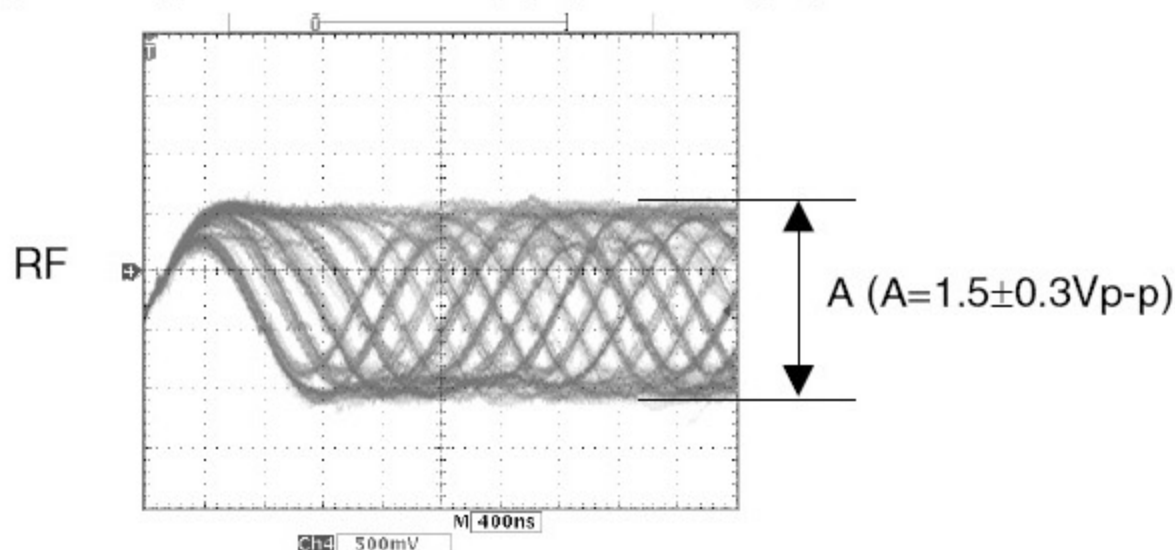

Fig. 6 In "04 t on"
- * Monitor RF signal using the Test Point, RF point and VC point. Check that the signal's amplitude is $1.5V \pm 0.3V_{p-p}$. (Refer to Fig. 6)